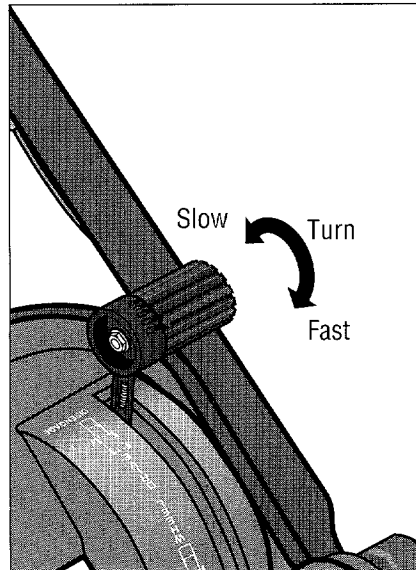

Figure 4-9: To set wheel speed, put Wheel Speed Lever in **DISENGAGE** position and turn adjustment knob to desired speed setting.
B. Turn the Wheel Speed Adjustment Knob (on end of lever) until the arrow on the knob points to the desired setting: **1 (slow)** to **5 (fast)**. See Figure 4-9.